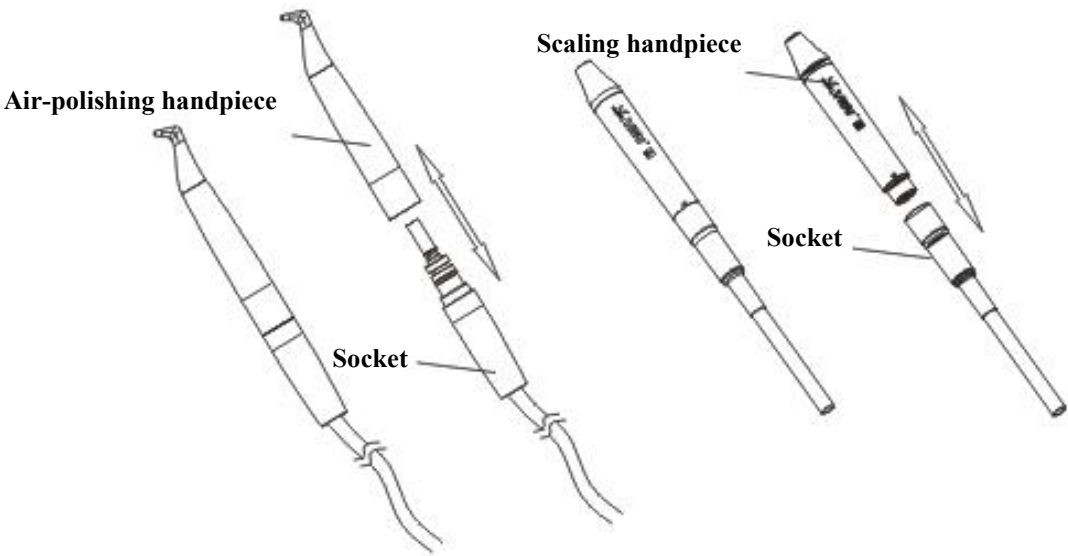

Figure 5
- (3) Insert the air polishing handpiece into the handpiece socket. (See fig.5)
- (4) Powder flow rate setting: Rotate the powder flow rate adjustment knob to control the powder consumption.
- (5) Water flow rate setting: Slide flow rate adjustment slider to adjust and select the appropriate water consumption.
- (6) Stepping on the foot switch to start treatment. 45°~60° of jet angle and 4~6mm of separation with teeth for the best treatment conditions.
- (7) After finishing treatment, touch power control slider, and it will clean the internal air circuit of air polishing system automatically for 5 seconds.
- (8) After self-cleaning, unscrew the nozzle (nozzle is single-use) and pull out the handpiece for cleaning and sterilization.